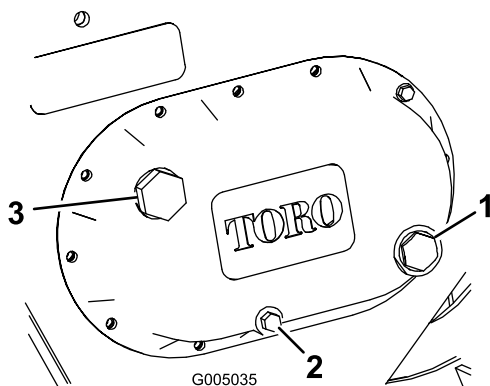

Figure 15
3. Check the clear glass gauge on the side of the gear case (Figure 15).
4. If the gear-lube level is low, remove the fill plug (Figure 15) and fill the case with gear lube until it is level with the red dot in the gauge.
4. Remove the drain plug (Figure 15), allowing the oil to spill out into the container.
6. Remove the fill plug (Figure 15) and fill the case with gear lube until it is level with the red dot in the gauge.